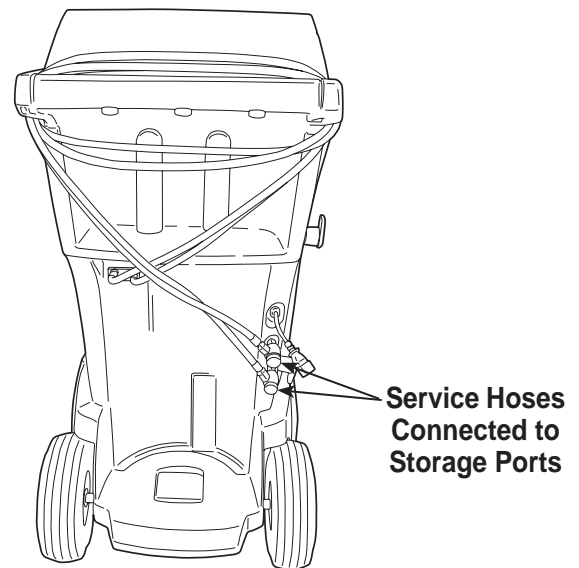

Figure 5
2. When prompted, connect the service hoses from the machine to their storage ports as shown in Figure 5. Select **▶▶** to continue.